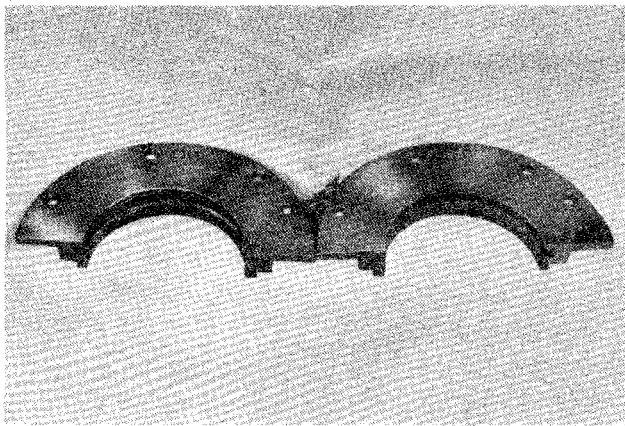

**Fig. 33 Crankshaft Mandrel for centring the Rear Oil Seal.**
- (i) Check that the two halves of the rear oil seal bear the same number (Fig. 32). These are machined as a mated pair and failure to observe this instruction may result in oil leakage. Shellac the top half of the oil seal and attach it loosely to the cylinder block by its four bolts and lock washers. Shellac and similarly fit the lower half of the oil seal to the rear bearing cap. Ensuring that the crankshaft mandrel is clean (Fig. 33), lay it in the rear bearing housing (without the shell bearings).